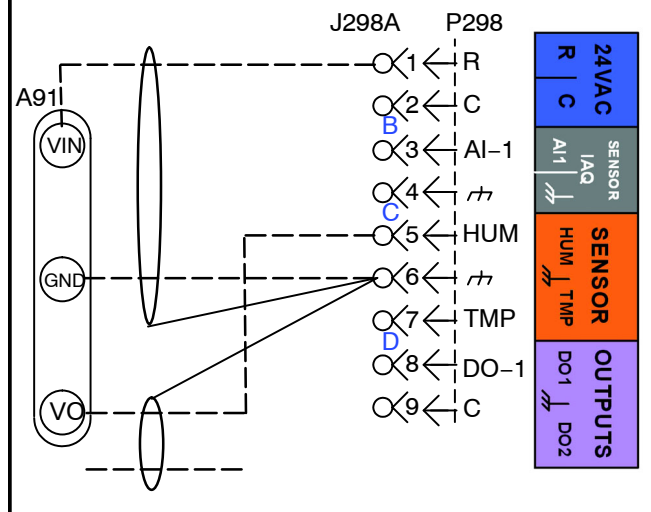
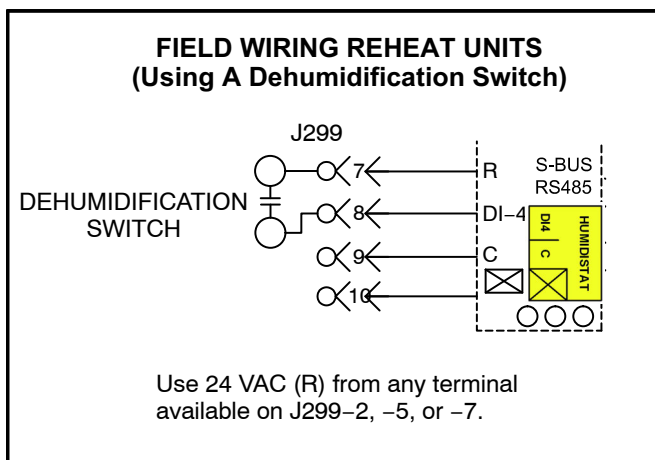

FIGURE 16
FIGURE 18
Use two separate shielded cables containing 20AWG minimum, twisted pair conductors with overall shield. Belden type 8762 or 88760 (plenum) or equivalent. Connect both cable shield drain wires to the Unit Controller as shown in figure 16.
Use two separate shielded cables containing 18AWG minimum, twisted pair conductors with overall shield. Belden type 8760 or 88760 (plenum) or equivalent. Connect both cable shield drain wires to the Unit Controller as shown in figure 16.
- 2- Make wiring connections as shown in figure 14 for Thermostat Mode or figure 15 for Zone Sensor Mode. In addition, connect either a humidity sensor or a dehumidification input. See figure 16 or 17 for humidity sensor wiring or figure 18 for dehumidification input wiring.